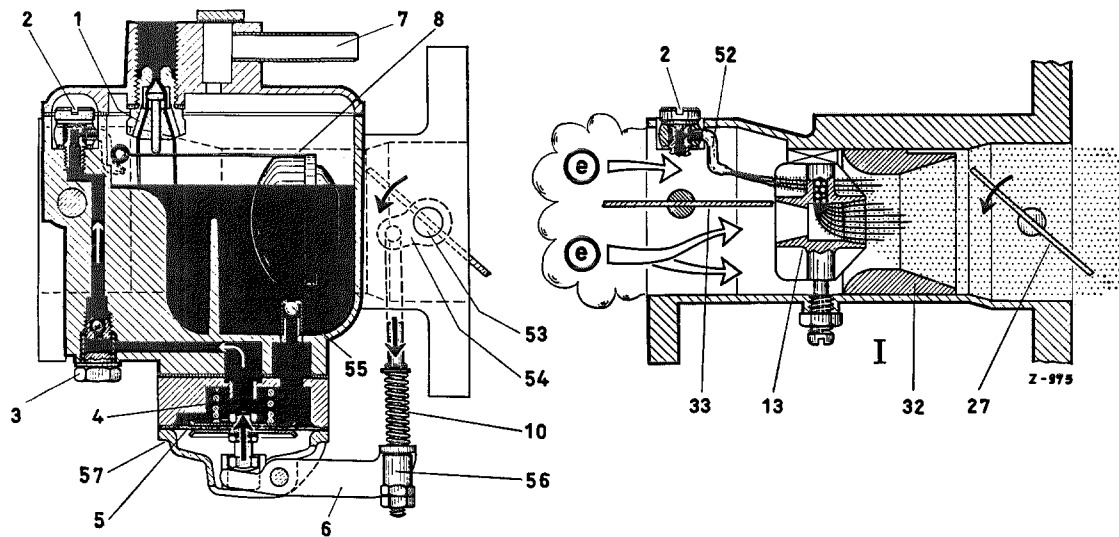

Fig. 07-0/48
During the injection period the ball valve (55) now operating as a check valve is closed. When the accelerator pedal is released, the diaphragm spring (4) presses the diaphragm (5) back. The ball valve (55) now operates as a through-way valve, whereas the ball valve (3) works as a check valve and prevents air from entering the pump system from the suction canal (Fig. 07-0/48).